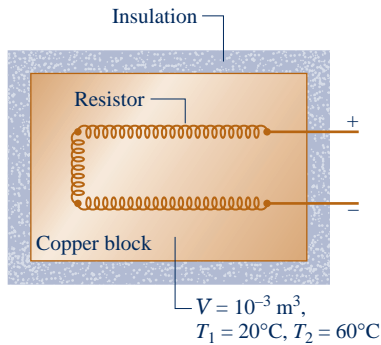

Fig. P3.86
3.86 Shown in Fig. P3.86 is an insulated copper block that receives energy at a rate of 100 W from an embedded resistor. If the block has a volume of 10^{-3} m^3 and an initial temperature of 20°C , how long would it take, in minutes, for the temperature to reach 60°C ? Data for copper are provided in Table A-19.